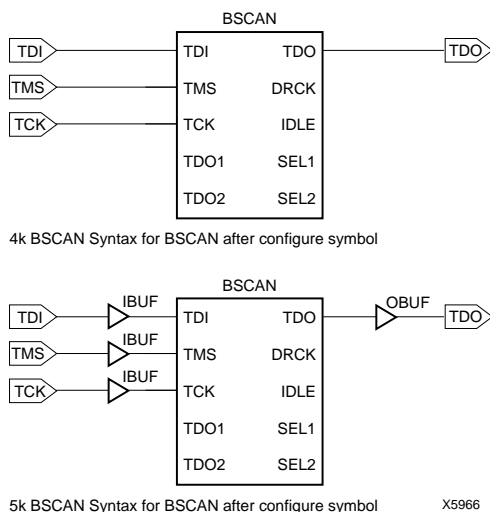

Figure 5: Boundary-Scan Schematic Symbols
Accessing boundary scan after the device is configured has one requirement. The BSCAN symbol must be instantiated/inserted into your design with the correct syntax (see Figure 5). In this case, activating boundary scan after configuration amounts to toggling the TAP pins.
- For the 5k, add IBUFs to TDI, TMS, and TCK. For TDO, add an OBUF. (see figure 5)